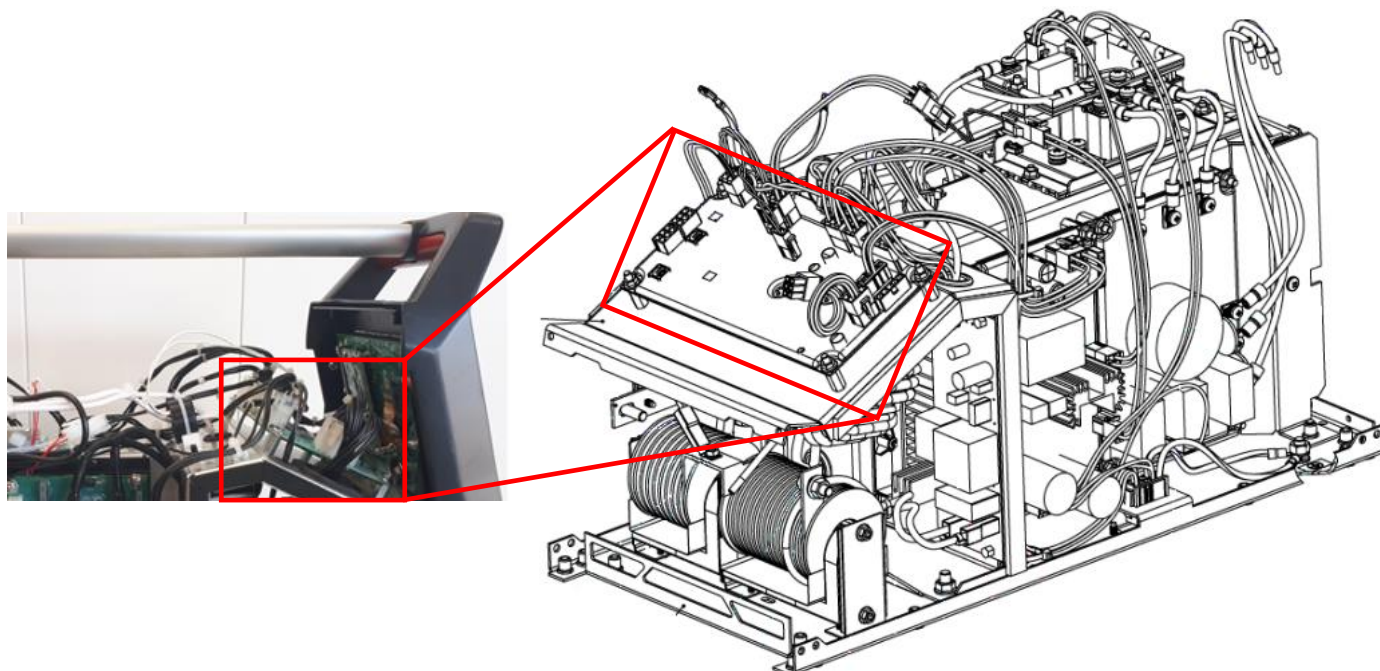

Figure 31
3. Locate the Control Board. See **Figure 31**